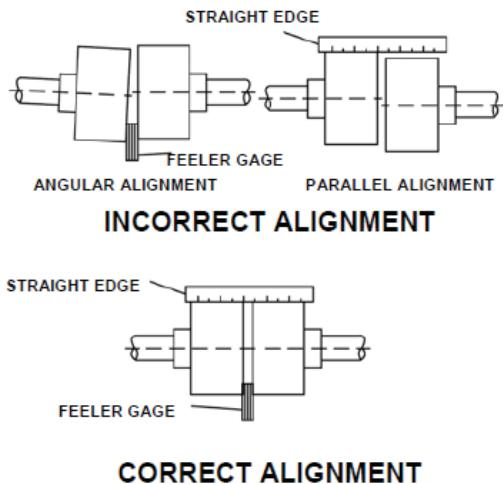

Figure 7 – Checking Alignment (Straight Edge Method)
14.1 Initial Alignment of the Flexible Coupling (See figure 7)